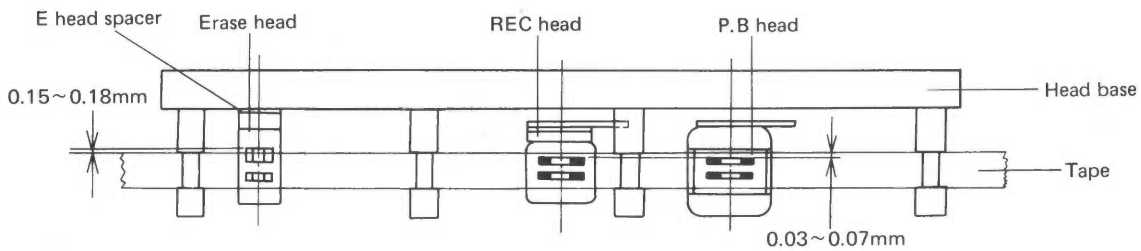
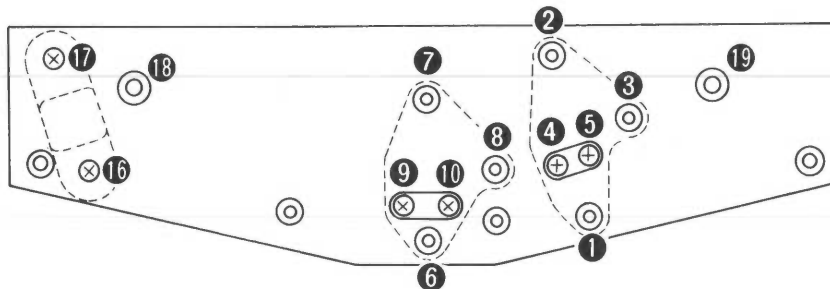

Fig. 7-1 Dimensions for the height of heads
Fig. 7-2 Adjustment points
Adjust the following screws (see Fig. 7-2) to attain the dimensions as shown in Fig. 7-1 for each head during tape transport.
If the Fig. 7-1 dimensions for the height of the erase head cannot be obtained, remove screws ⑬ and ⑭ and also the head base, loosen screws ⑬ and ⑭, and replace the E head spacer.
Adjust the following screws shown in Fig. 7-2 so that both the top and bottom of the head surface make uniform contact with the tape during tape transport.
Adjust the following screws shown in Fig. 7-2 so that the head gap is at an exact right angle to the direction of the tape.
2. Adjust screw ③ shown in Fig. 7-2 until the AC millivoltmeter gives a maximum reading. As long as there is no big difference in output between left and right channels, this may be disregarded.
3. Check that there is no change in output when the tape is pressed in slightly by hand (near the head gap) during tape transport. If the output does vary, loosen screws ④ and ⑤ shown in Fig. 7-2, and move the head around in a horizontal plane (i.e. in either left or right directions) to find the most suitable position.
2. Record this 2kHz signal onto the STD-502 test tape, and play the recorded portion back. Adjust screws ⑥, ⑦ and ⑧ as shown in Fig. 7-2 so as to obtain maximum output level in both left and right channels.
3. Next apply a 15kHz signal and record it onto the same test tape. During playback, fine adjust screw ⑧ to again obtain maximum output level in both channels.
4. Then gently press against the tape (by finger) during transport at a spot near the head gap, and check for any change in output level. If the level does vary, loosen screws ⑨ and ⑩ as shown in Fig. 7-2, and move the head around in a horizontal plane (either to left or right) to find the optimum position.